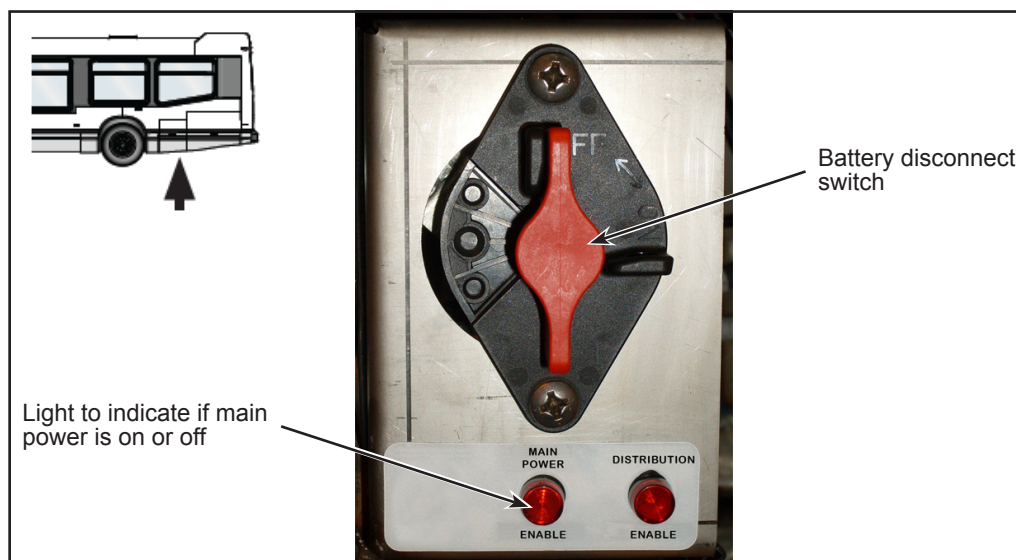

Figure 2 - Typical Battery Disconnect Switch
- 1.5. Set the battery disconnect switch in the battery compartment to the OFF position (see Figure 2).